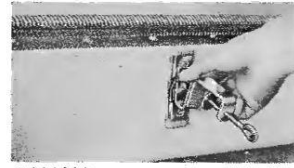

Fig. 7
7. Take out the table clamps from the accessory box. Raise the front of the knitter, insert the head of screw (B) into the aperture (C). Press upwards so that the head of screw (B) is in position (D) and fasten the knob (A). Fasten the knitter to the table by the tightening table clamps. It is essential that boss (E) fits snugly into aperture (F). (See Fig.7,8.)